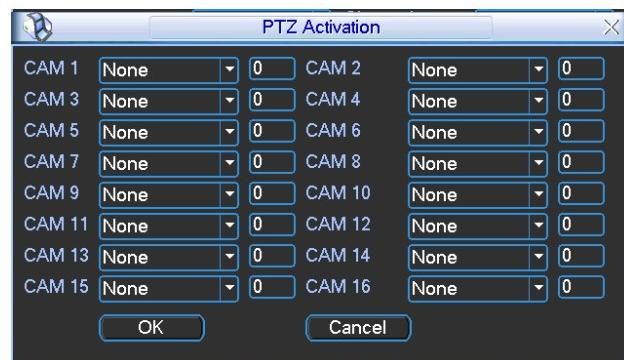

Figure 4-25
- PTZ activation: Here you can set PTZ movement when an alarm occurs. Such as go to preset, tour & pattern when there is an alarm. Click “select” button, you can see an interface is shown as in Figure 4-25.